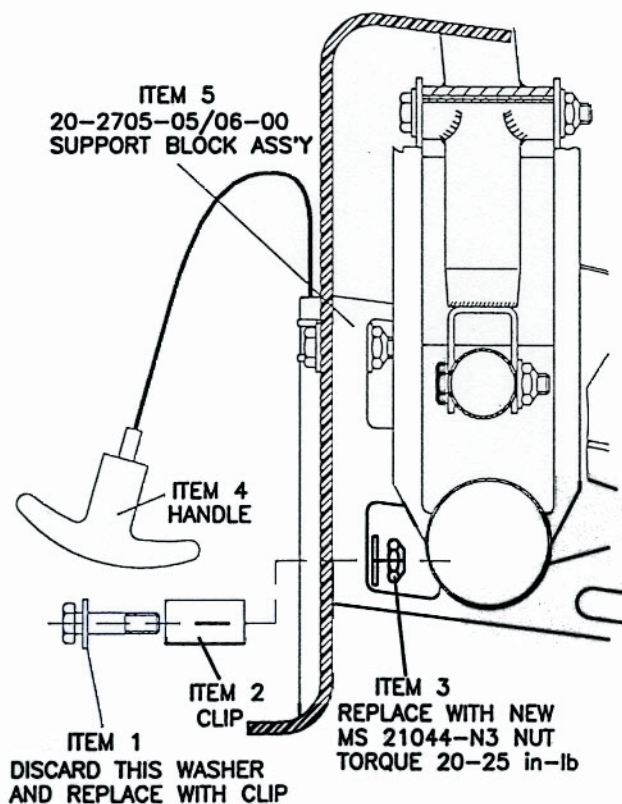
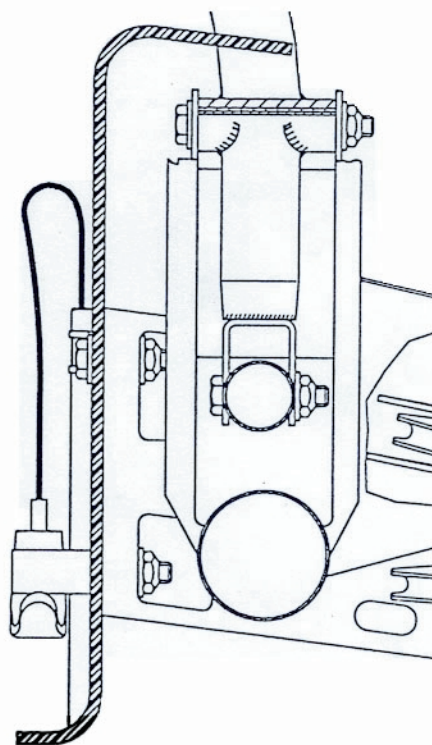

FIGURE 1
FIGURE 2
- 10.1 Remove seat cushion, control stick boot and seat pan to gain access to lower nut (Fig. 1, Item 3) which holds the support block assembly (Fig. 1, Item 5) in place. Remove lower bolt (Fig. 1, Item 1), discard the washer under the head of the bolt and insert the bolt through the retaining clip (Fig. 1, Item 2) and reinstall through support block assembly. Install new nut (Fig. 1, Item 3) and associated washer. Be sure that there is between 1 and 3 threads of the bolt exposed beyond the nut. Rudder pedal adjust handle (Fig. 1, Item 4) when not in use, is to be stowed as shown in Fig. 2.
14. Illustrations: Figure 1 and 2.